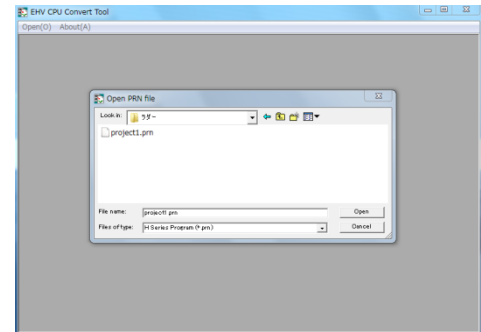

Fig. A2.1.4 Open PRN file in Convert Tool
- 1] Start Convert Tool (Fig. A2.1.4)